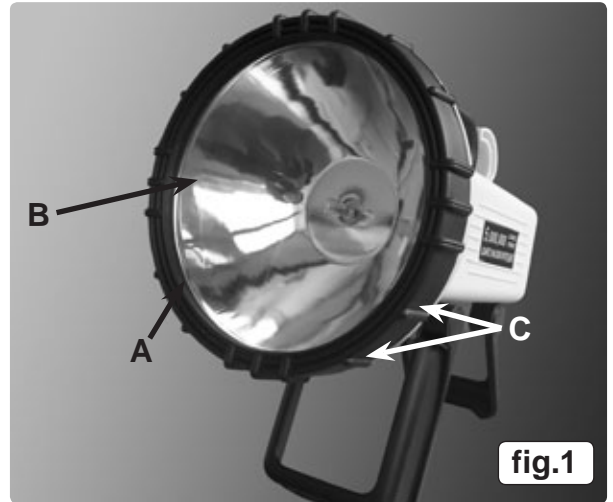

fig.1
3. The spotlight has a fixed carrying handle and two adjustable standing supports (fig.1.C).
1. Undo the spotlight hood (fig.1.A) by turning it anti-clockwise.